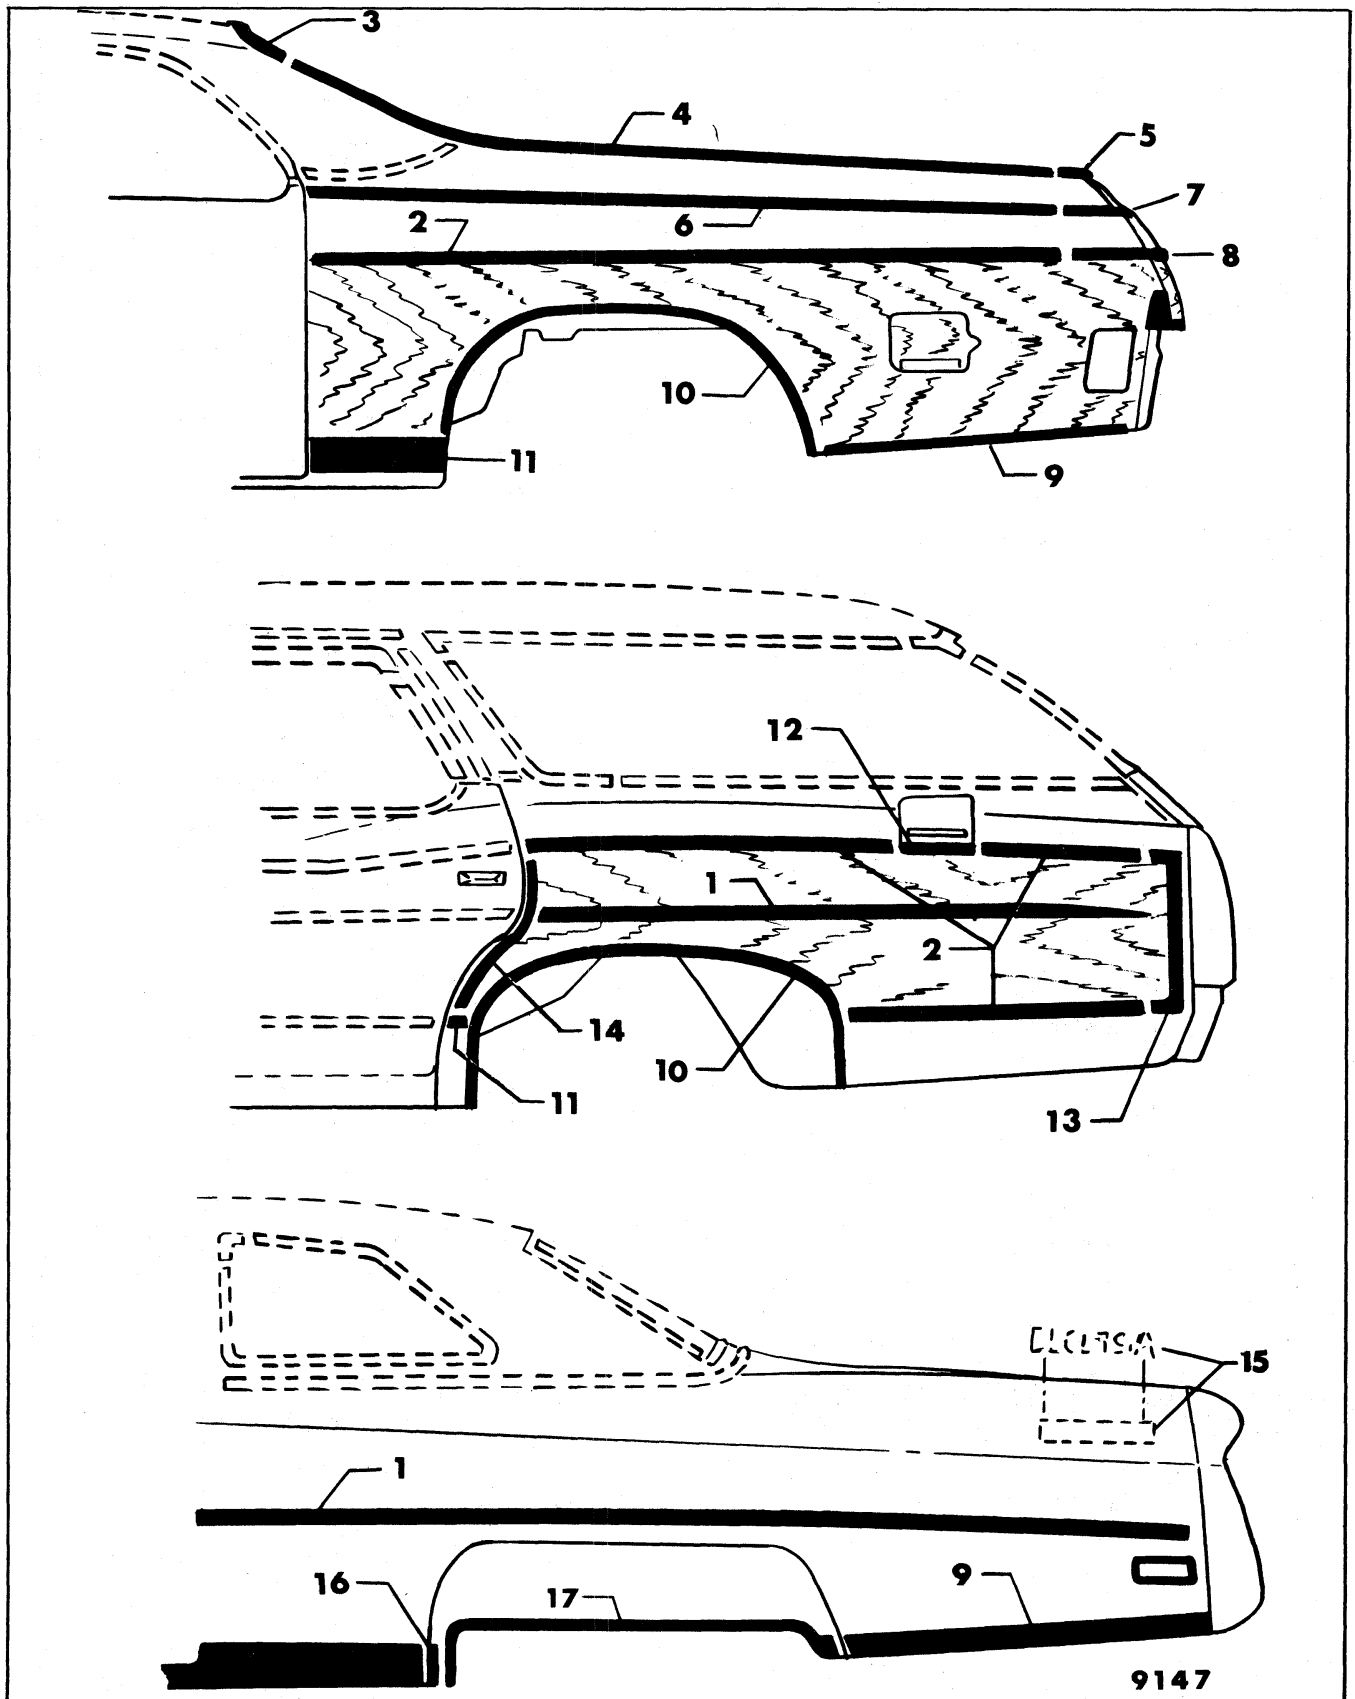

Fig. 6-30 - Typical Lower Quarter Exterior Moldings
Figure 6-30 identifies all typical lower quarter exterior moldings by number. Molding installation chart (Figure 6-33) identifies molding description and specific attachment.
1. Using typical exterior molding illustration (Fig. 6-30), locate number of specific molding(s).